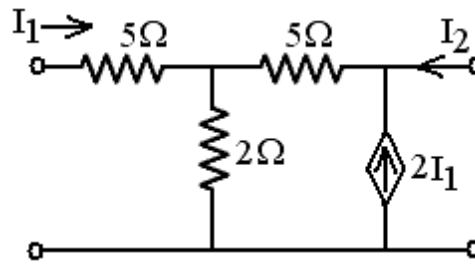

Fig.3
2. Determine the Z – Parameters and transmission parameters of the current shown in Fig.3. [15]